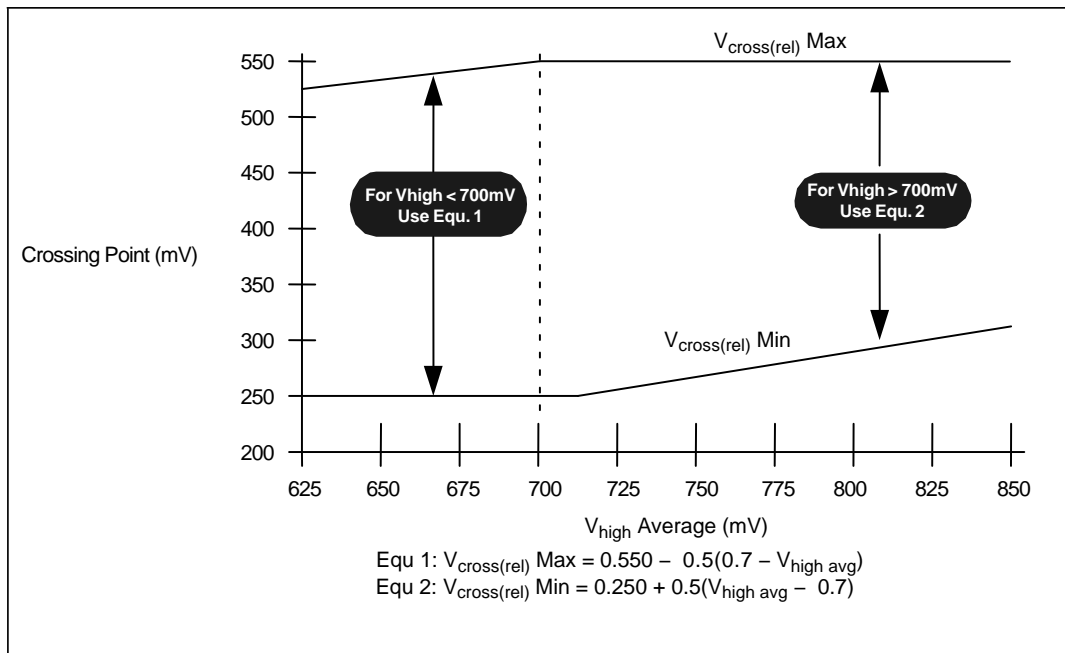

Figure 16. V_{cross} Range Clarification (Note 34)
16. Vcross(rel) Min and Max are derived using the following, Vcross(rel) Min = $0.250 + 0.5 (V_{\text{high avg}} - 0.700)$. Vcross(rel) Max = $0.550 - 0.5 (0.700 - V_{\text{high avg}})$, (see Figure 16 for further clarification).